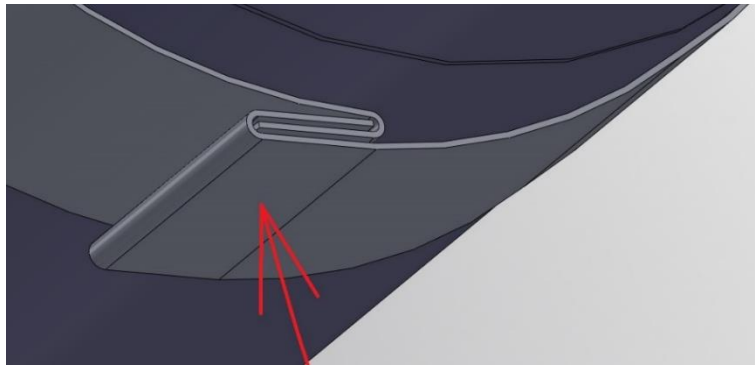

Fig. 6
- Finish the bend – see Fig. 6.